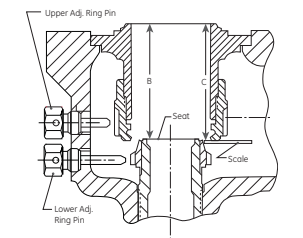

Figure 14: Guide - Bushing Seat Assembly
- 12. Measure from the top of the guide to the bushing seat (Dimension B, Figure 14) with a depth micrometer or other suitable measuring device. **Record Dimension B.** Place a scale or other thin flat metal surface against the lower face of the upper adjusting ring and measure from the top of the guide to the face of the upper adjusting ring (Dimension C, Figure 14). **Record Dimension C.**